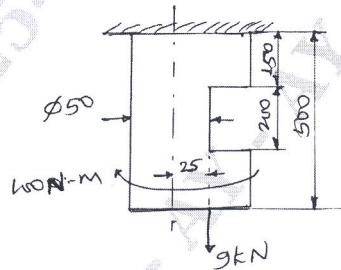

Fig.Q1(b)
b. A steel member has a torque of 100 N-m and an axial load of 9000 N, applied as shown in Fig.Q1(b). What is the magnitude of maximum shear stress, maximum normal stress and minimum normal stress?